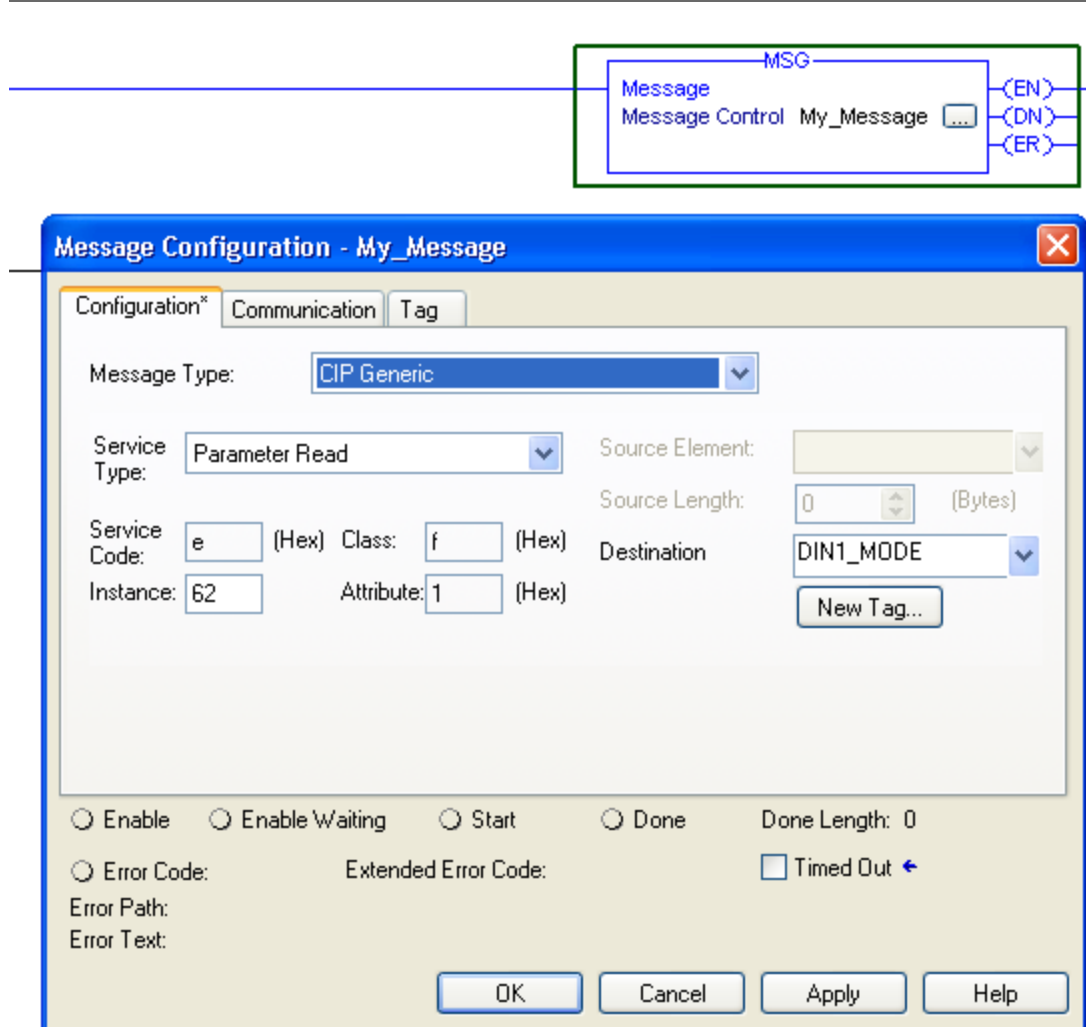

Figure 4-19: Message Configuration
6. Set the Axis_Output parameter to the output data of the axis for which you are setting up communication (Figure 4-19: Axis Communication Output). Double click the "?". A drop down box will appear. Select the output data tag that corresponds to the "ETHERNET-MODULE" object you created in the I/O Configuration of the project.